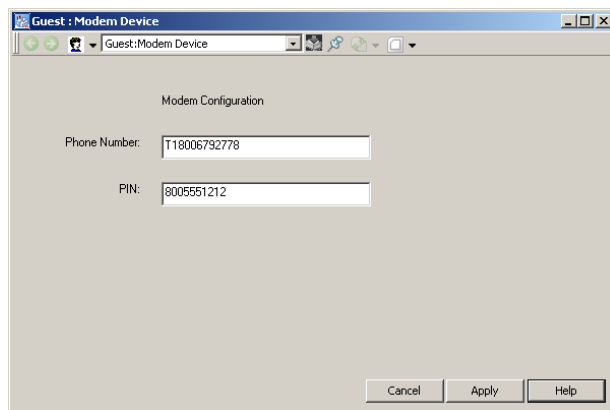

Figure 102. TAP/Modem Device
20. Enter a valid PIN for this user in the PIN: field to produce a view similar to the one shown in Figure 102.